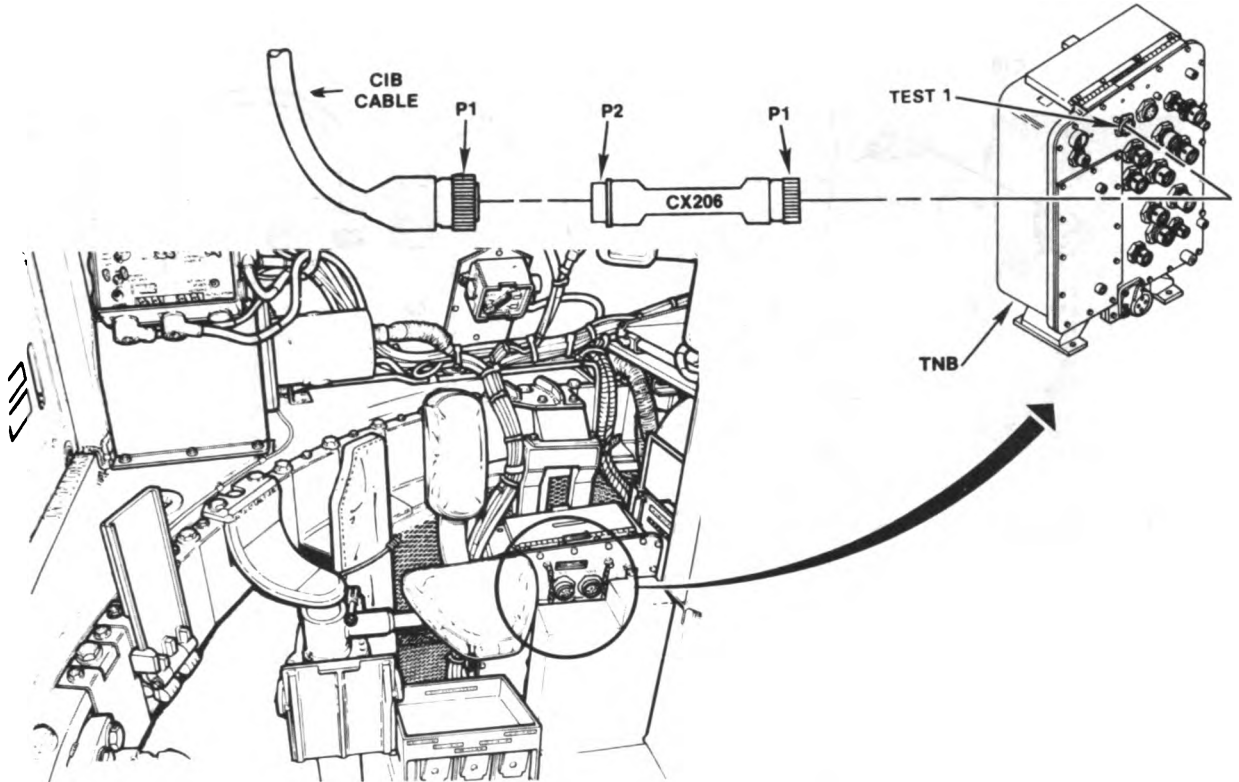
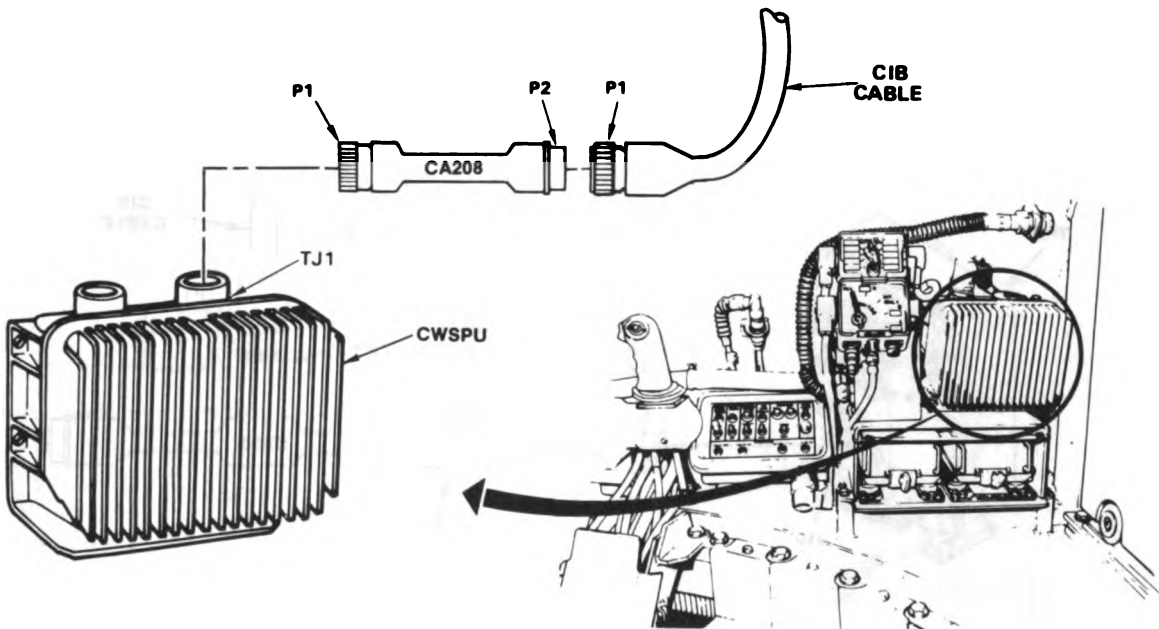
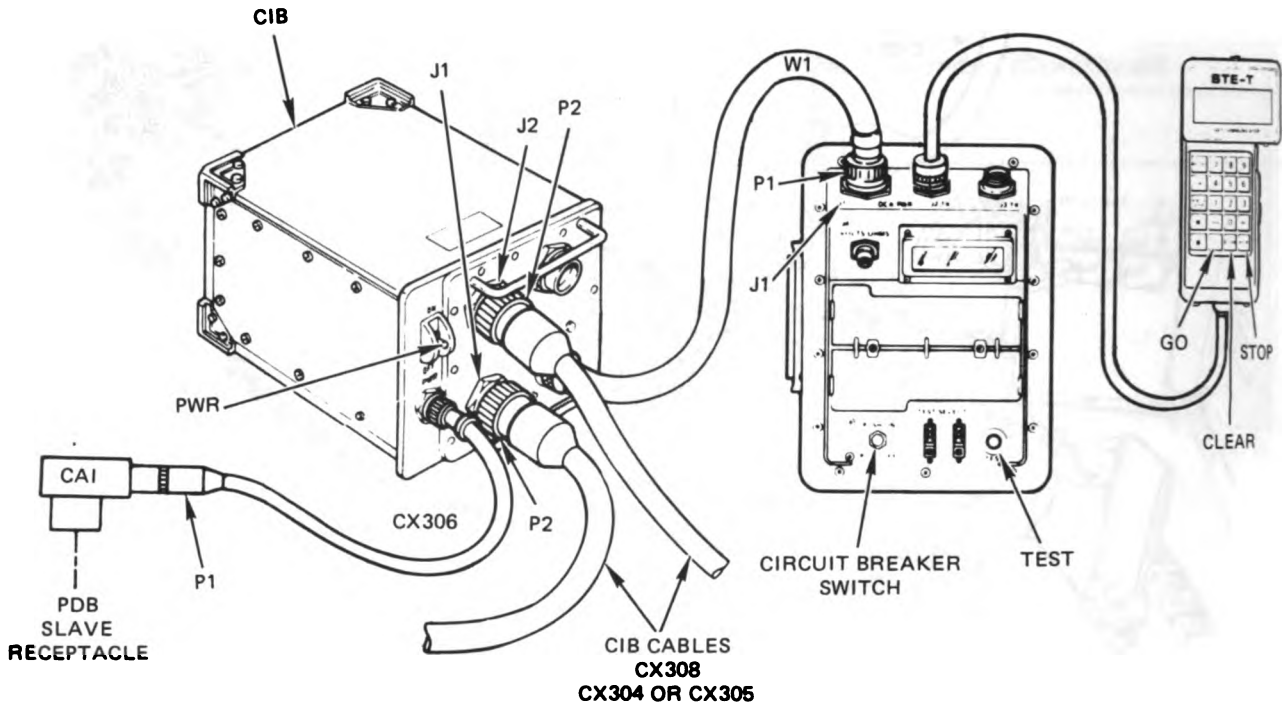

Figure 11-2. STE Turret Cable Hookup to TNB-TEST 1
Figure 11-3. STE Turret Cable Hookup to CWSPU-TJ1
Figure 11-4. STE Turret Cable Hookup to CIB-J1 and J2
ECT CIB J1 (CX305) IB TJ1 (CA206)	<ul style="list-style-type: none"> ● Connect P1 on adapter CA206 to TEST 1 on turret networks box. ● Connect P1 on CIB cable CX305 to P2 on adapter CA206. ● See figure 11-2. ● Connect P2 on CIB cable CX305 to CIB-J1. ● See figure 11-4.
ECT CIB J2 (CX304) NSPU TJ1 (CA208)	<ul style="list-style-type: none"> ● Connect P1 on adapter CA208 to TJ1 on power control unit. ● Connect P1 on CIB cable CX304 to P2 on adapter CA208. ● See figure 11-3. ● Connect P2 on CIB cable CX304 to CIB-J2. ● See figure 11-4
REMOVE CX304 AND ADAPTER AT CWSPU	<ul style="list-style-type: none"> ● Disconnect P1 on CIB cable CX304 from P2 on adapter CA208. ● Disconnect P1 on adapter CA208 from TJ1 on power control unit. ● See figure 11-3.
REMOVE CX305 AND ADAPTER AT TNB TJ1	<ul style="list-style-type: none"> ● Disconnect P1 on CIB cable CX305 from P2 on adapter CA206. ● Disconnect P1 on adapter CA206 from TEST 1 on turret network box. ● See figure 11-2.
• See figure 11-4.
- See figure 11-4.
- Connect CX305-P2 (1) to breakout box (2).